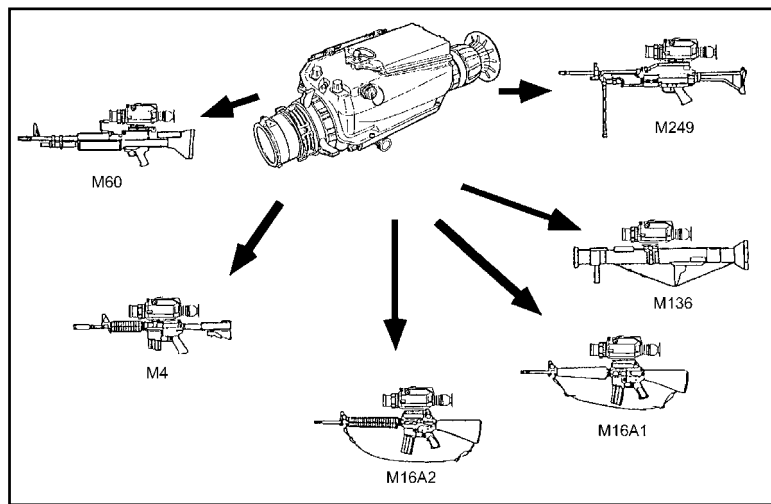
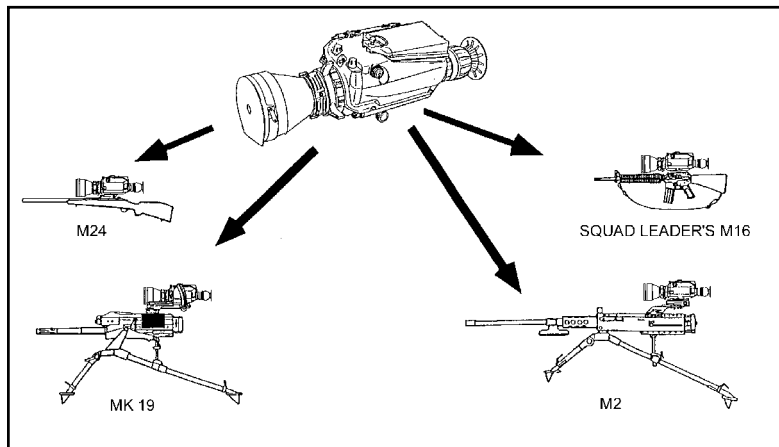

Figure F-16. MWTS.
Figure F-17. HWTS.
(2) The only difference between the MWTS and the HWTS are the telescopes, which are different magnifications and hold different reticles. The basic sensor on the two models is the same. The MWTS fits the M4 carbine, the M4 modular weapon system, the M16A2, the M16A4 (not shown), the M249, the M60 machine gun, the M240B machine gun (not shown), and the M136 grenade launcher (Figure F-16). The HWTS fits the squad leader's M16, the M24 sniper rifle, the M2, caliber .50 machine gun, and the MK-19 grenade launcher (Figure F-17).